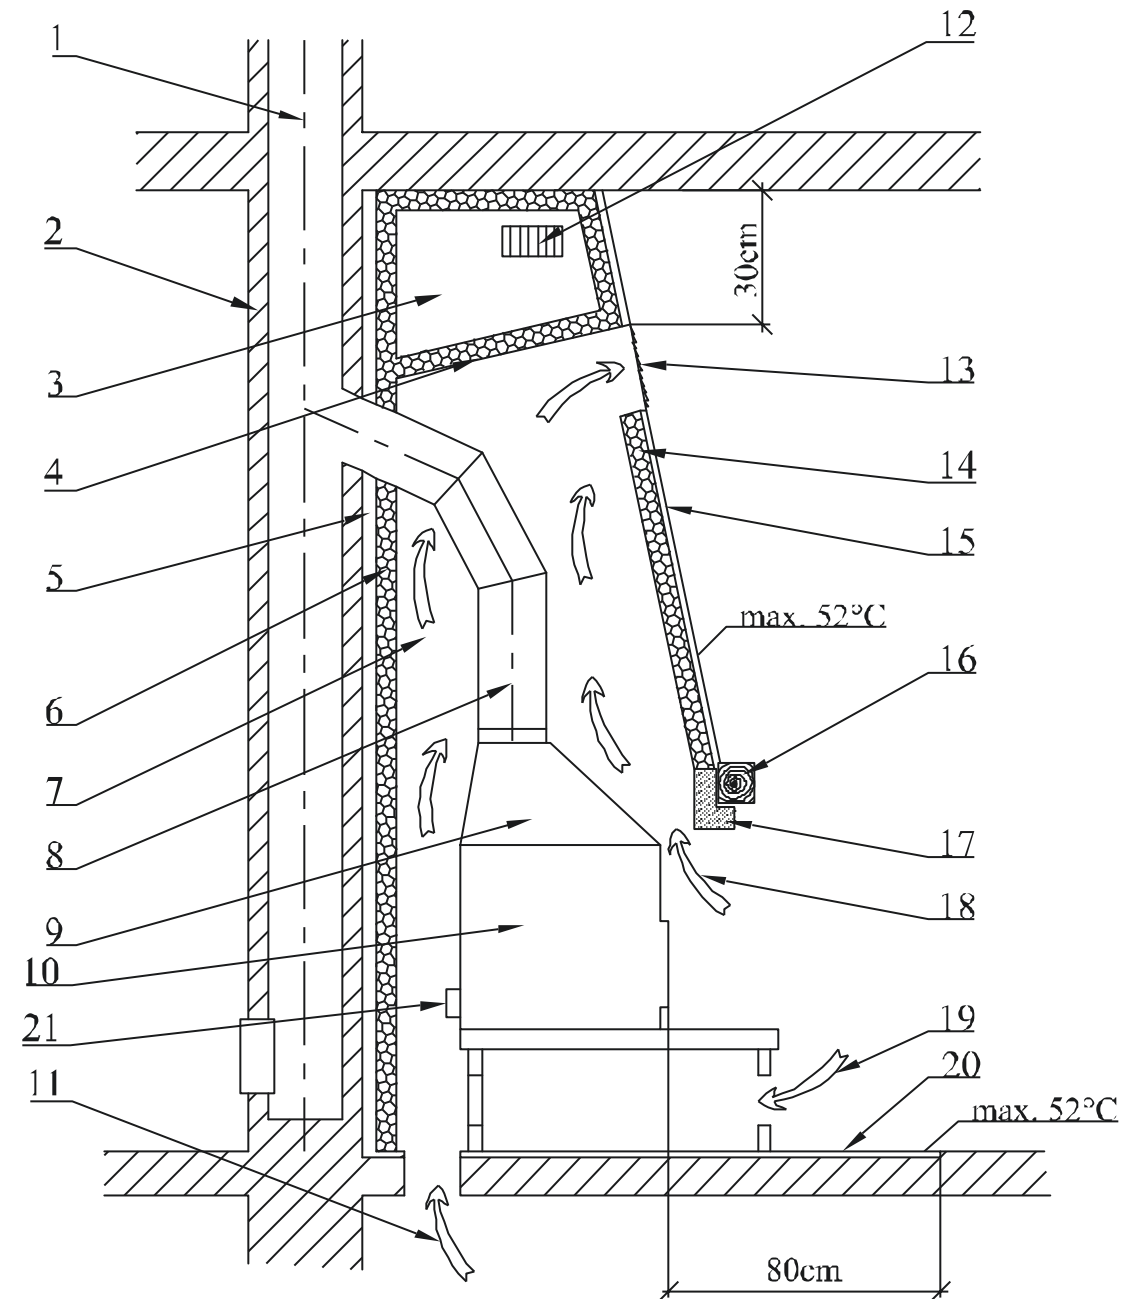

Figure 2
The safe distance from door case covers and similarly located building constructions from flammable materials and from pipeline installation including its insulation is at least 20cm. The safe distance from other flammable parts of the building construction at least 40cm (see fig.2) according to ČSN 06 1008/1997. This includes building materials belonging to classes B, C and D as defined in ČSN EN 13501-1+A1/2010 (see table no.1) The same applies for walls and especially ceilings with plaster on a flammable surface, e.g. crates, planks, etc.! When the prescribed safe distances cannot be kept, the danger of fire must be prevented through construction solutions, non-flammable applications, heat-resistant insulations or protection screens.
5. The warm conventional air outlet must be at least **30cm** below the ceiling (figure 2).
6. An inflammable ceiling construction must be present above the conventional warm air outlet. Its temperature must not exceed **50°C**. Thus, the lower ceiling must be insulated from the effects of heat coming from the fireplace by a barrier and at least one not fully closeable grated opening (figure 2) or a sufficient layer of heat insulation.